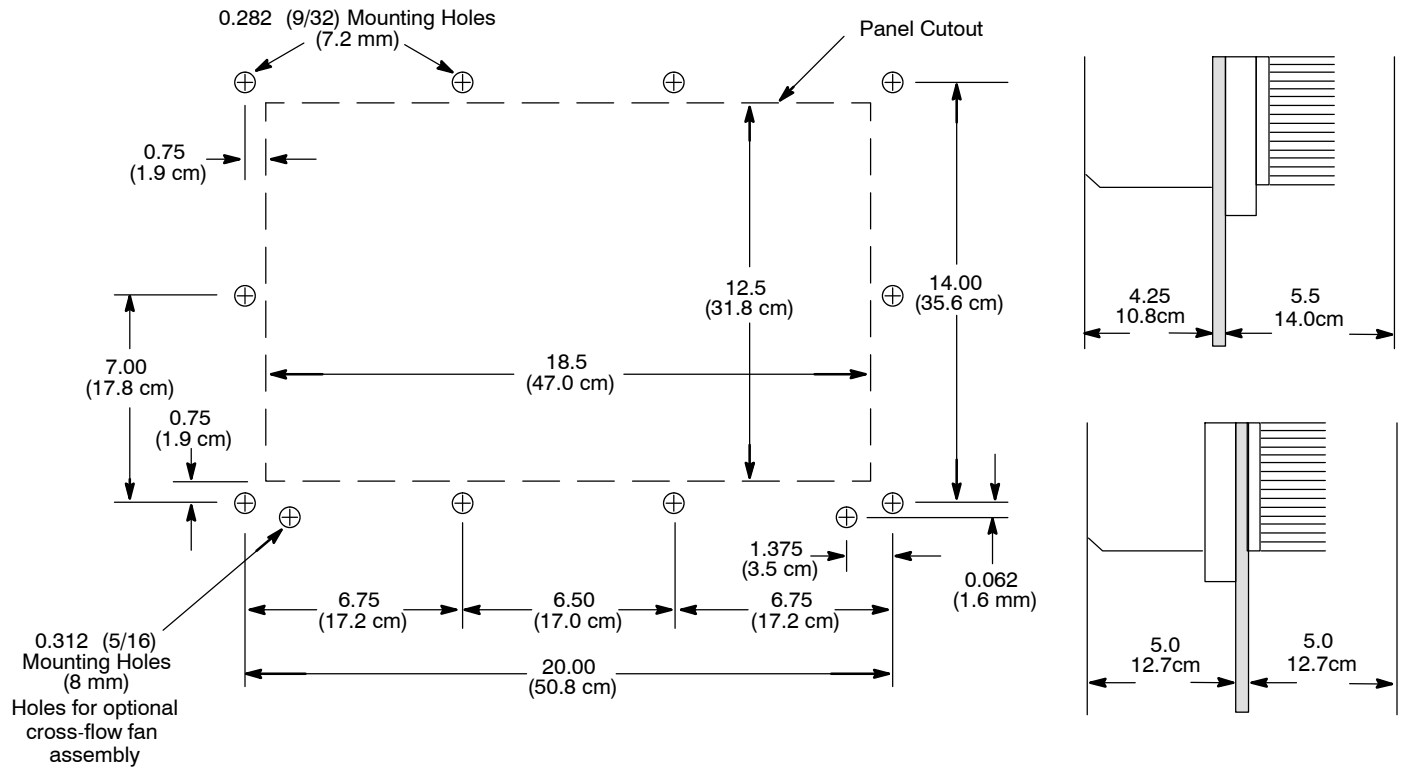
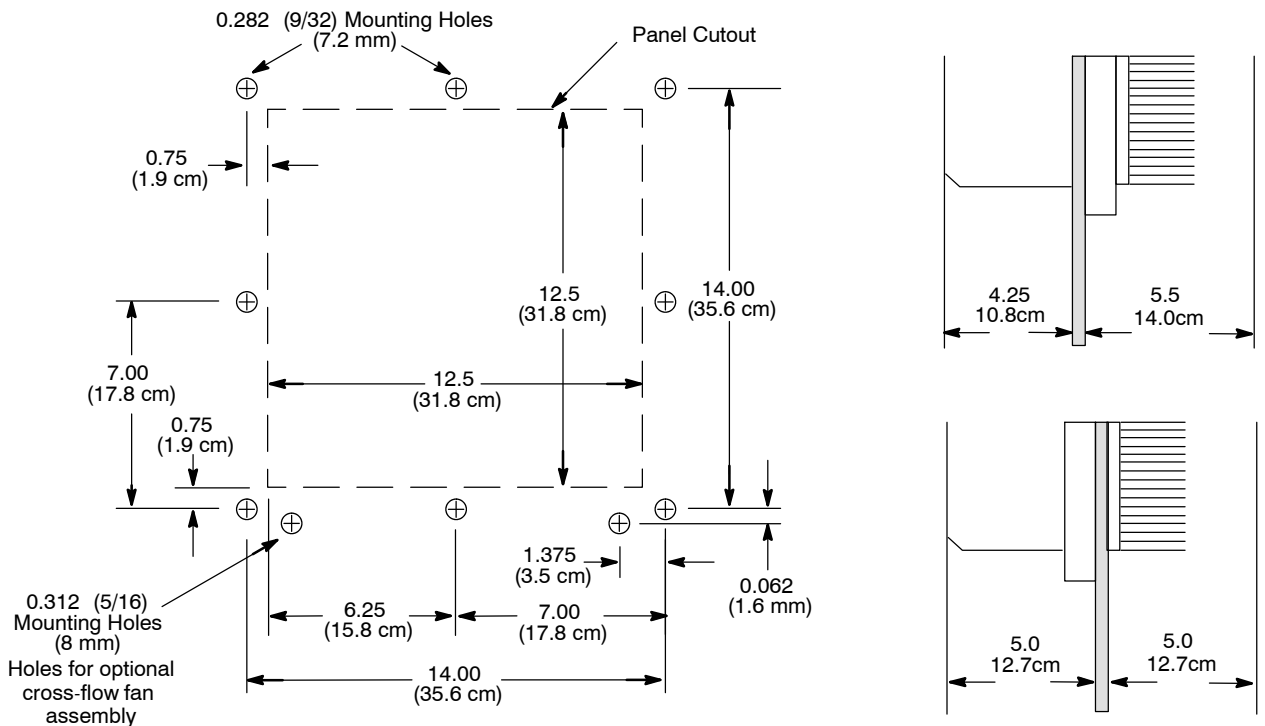

Figure 14 CWM Three-Position Mounting Plate Mounting Dimensions
Figure 15 CWM Two-Position Mounting Plate Mounting Dimensions
1. Cut a hole in the cabinet wall using the dimensions of the dotted rectangle in Figures 14 and Figure 15.
2. Spot and drill ten mounting holes for the #10 or 1/4-20 mounting hardware on the cabinet wall. Refer to Figure 14 and 15 for mounting dimensions.